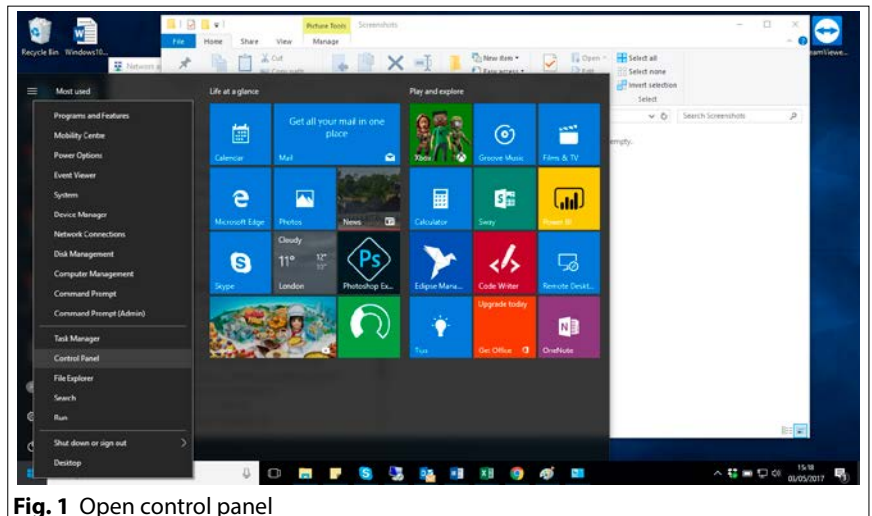

Fig. 1 Open control panel
- In order to install the videophone, it is necessary to remove the cover, which contains all the electronics, from the base: firstly disconnect the handset from the videophone (by removing its plug from the videophone) then insert a 5.5mm flat screw driver into the clip (A) then rotate clockwise until you listen a "CLICK!". Repeat the same operation with the other clip as shown in Fig. 1.